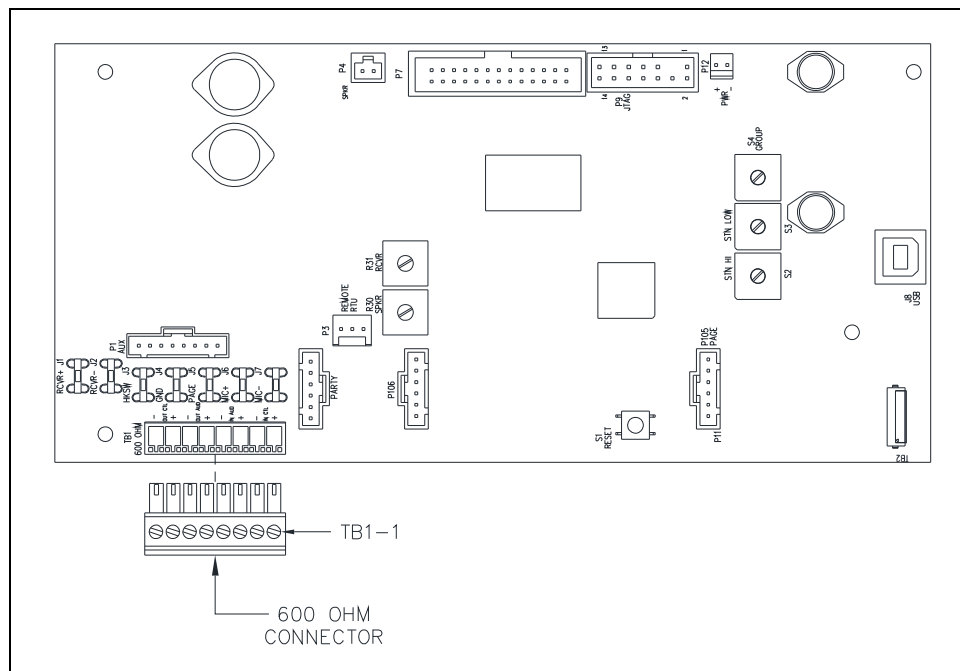

Figure 8. SP2 Main PCBA (Fiber)
3. Connect the 600-ohm audio wires to the pluggable terminal block for the 600-ohm audio I/O connection (see Table 6 and Figure 8).